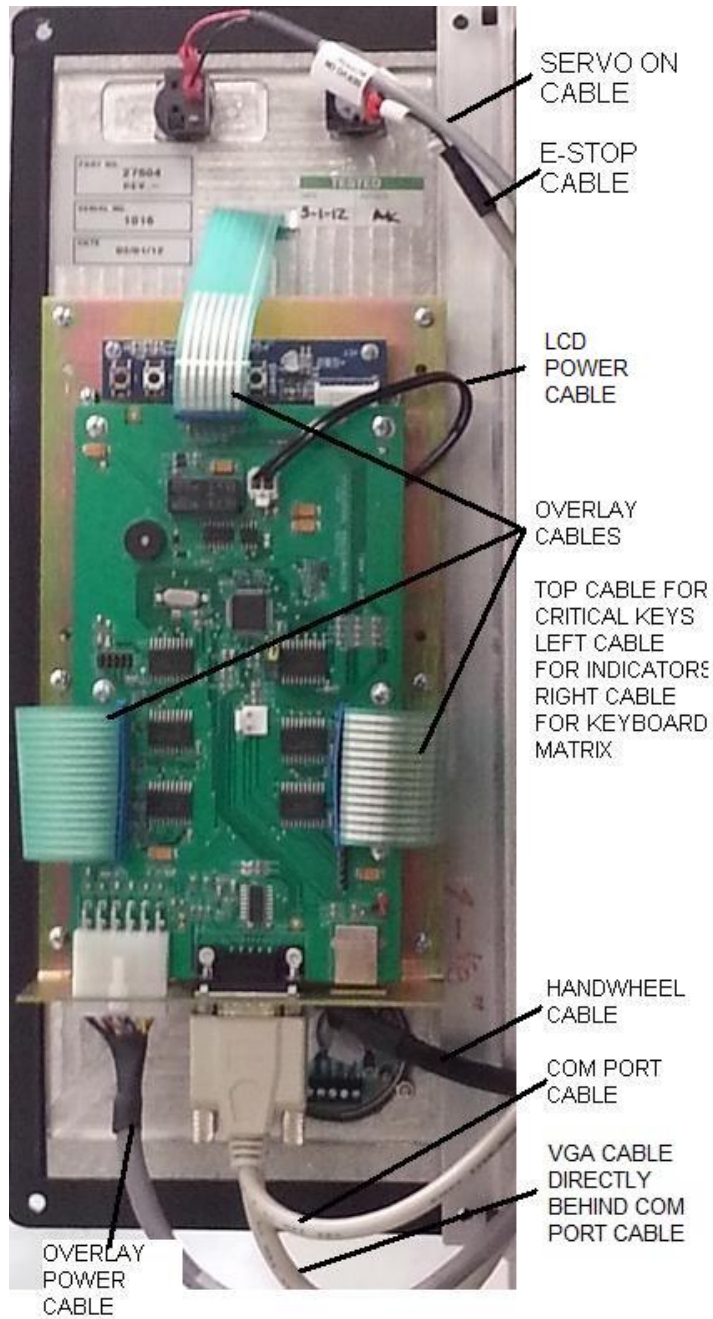
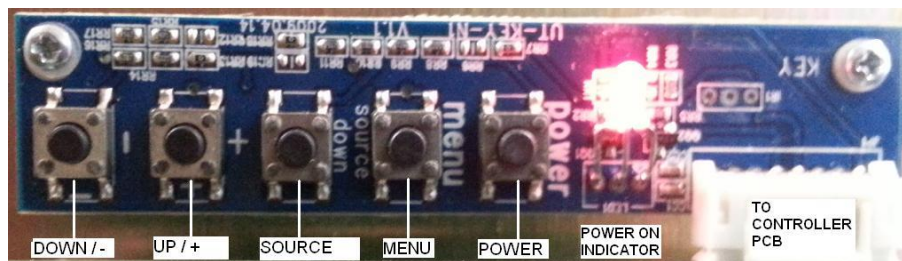

Figure 5.4b – Programming Panel Rear View
Figure 5.4c – LCD User Interface Board
The programming panel has 6 cables that run from this panel back to the computer module. See figure 5.4b. They are as follows:
2. LCD User interface board - sets the video input signal and adjusts the screen image for brightness, contrast, etc. It also switches on/off the controller board and LCD screen. It has 1 LED light that shows the state of the controller. This light is green and indicates the board is on. If you see a red light, something is wrong and there most likely will be no video. This light should always be on when power is available. This is used on primary mfg of LCD only. On secondary mfg they integrate the LCD controller and user interface board into one. See figure 5.4c and 5.4d for a description of all the buttons for both units.
Overlay Key failure	Keys on panel do not work. Check by using service code 81. The screen will display a picture of the overlay. Each key pressed on the overlay will light up on the screen and the pendant will beep which means it is working. If not check the connections between the Program panel overlay and the overlay interface board. Also check the overlay power cable for the critical keys and COM port cable for all other keys. Refer to Fig. 5.4b.
LCD has no display	You will not have the ability to see the video signal. Make sure the user interface board is not turned off (figure 5.4c). If the user interface board LED is on but the backlights remain off. Check all cable connections to LCD controller board and inverter board. See Fig. 5.4b.